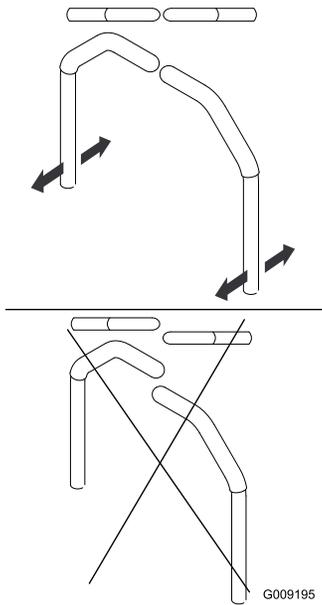

Figure 77
4. Align the levers in the front-to-rear position by bringing the levers together to the NEUTRAL position, and slide them until they are aligned, then tighten the bolts (Figure 77).